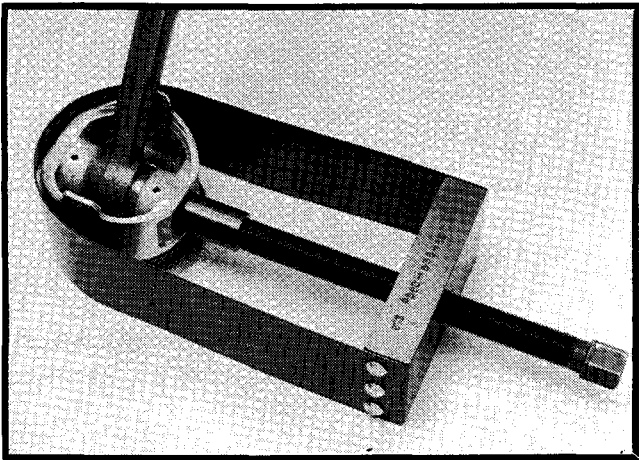

Figure 13.
11. Remove the piston pin using tool CU40007. See Figure 13.